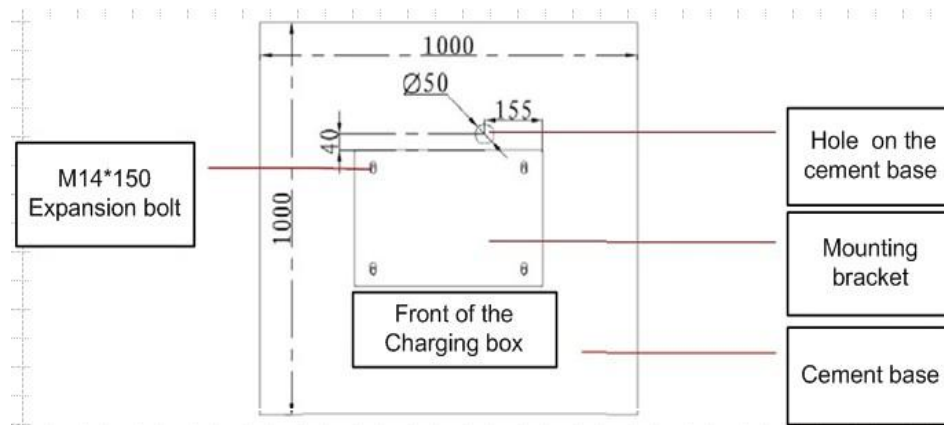

Fig 7 Cement base dimension diagram
- **Step 9** The power grid input cables should be came from a hole digged on the cement base and connected to the control box vertically. The position of the hole is shown as Fig 7.